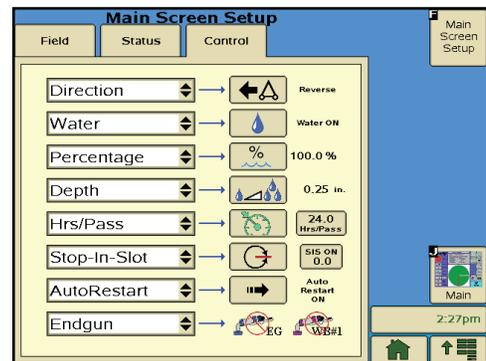

Figure 36-2 Control Setup
- (a) Select a button field and choose a button or status from the drop-down list. Choose **Empty** if you want to leave the field blank. See Figure 36-2.